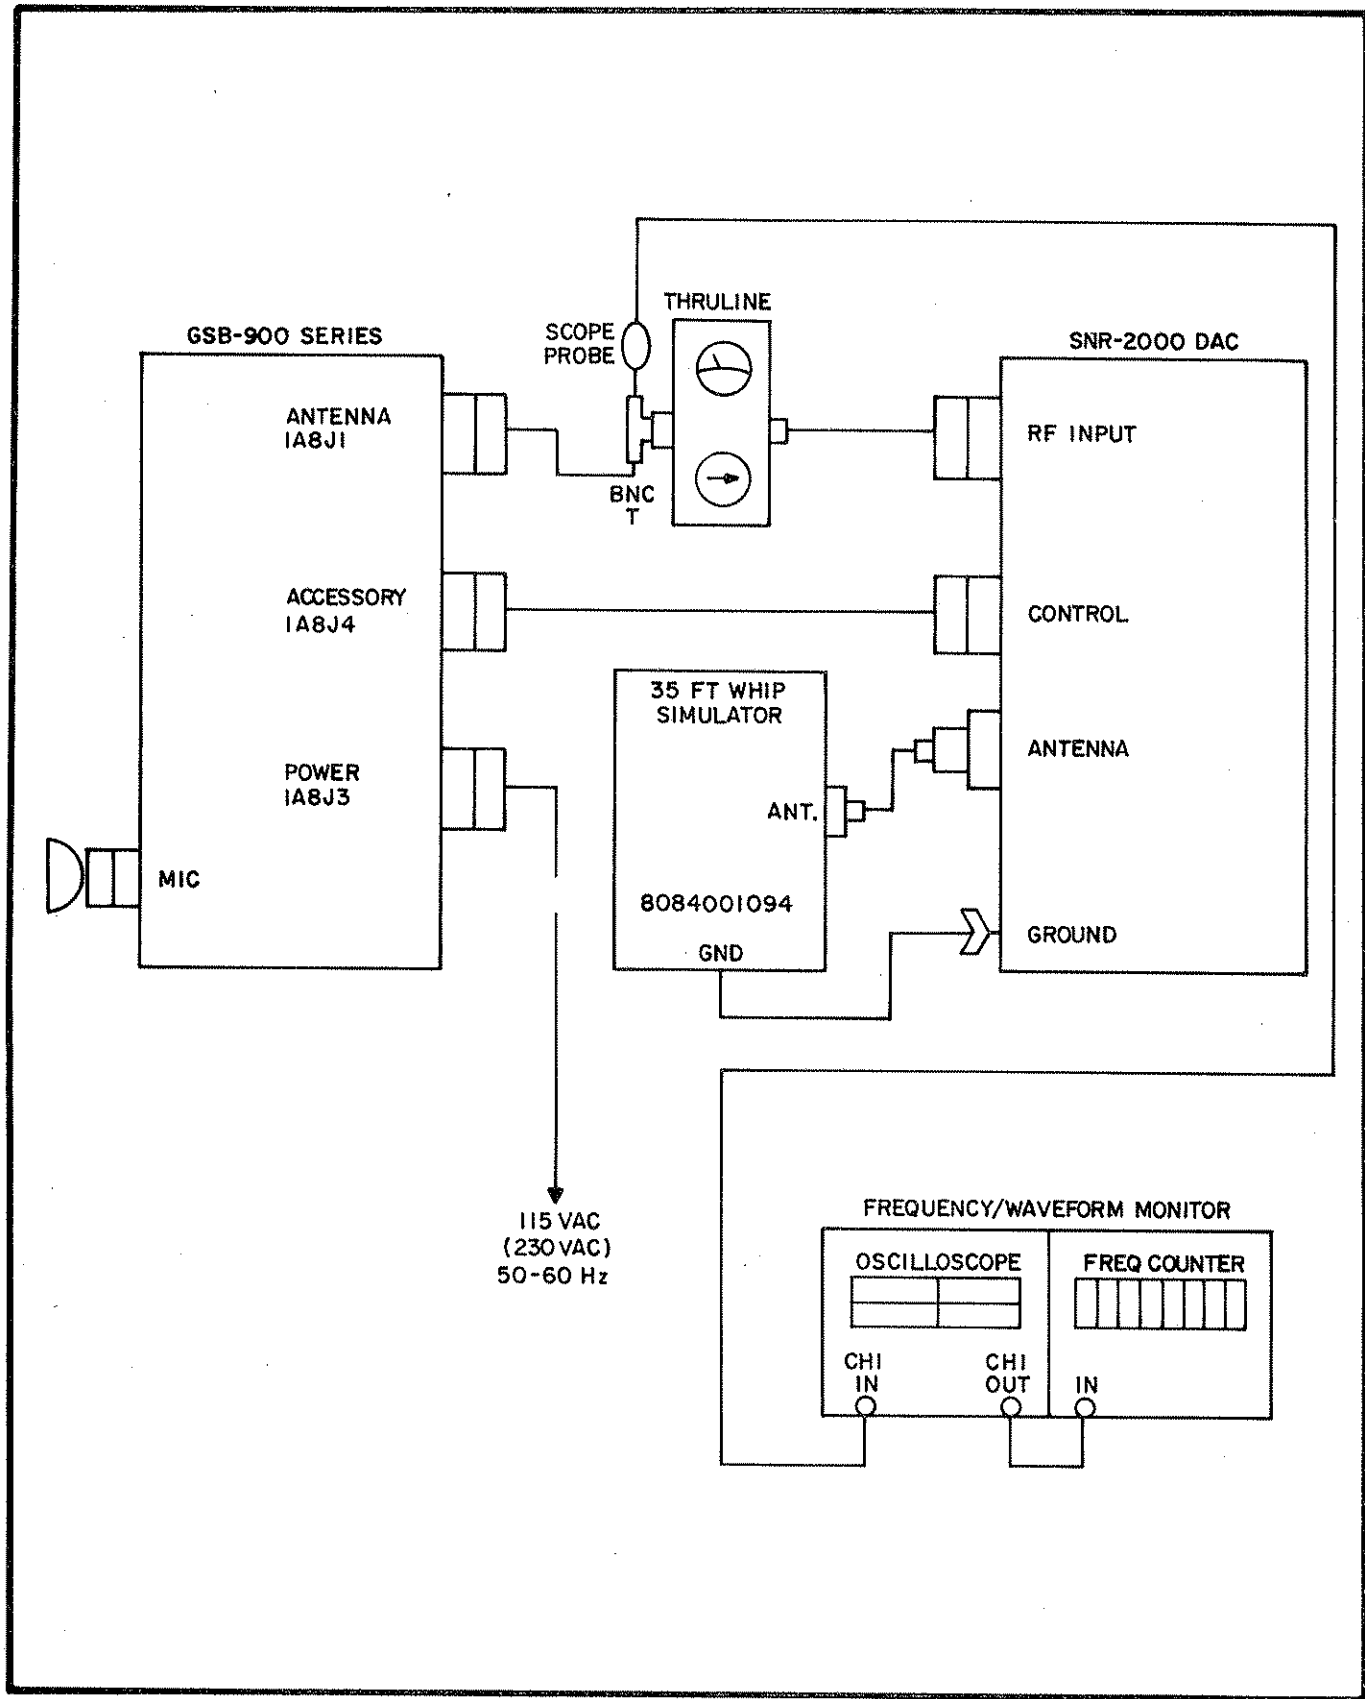

FIGURE 5-5 COUPLER TEST SETUP
Connect coupler and test equipment as shown in Figure 5-5. Perform Fault Analysis as outlined in Table 5-1.
PRELIMINARY SETUP FIGURE 5-5
F. REFLECTED RF POWER DETECTOR (HI)
4. Unkey radio and turn MODE switch to OFF. Disconnect meter leads and disconnect 50 ohm dummy load. Remove A3 from extender and remove extender board. Reinstall A3 board in coupler and reconnect RF coax cables, fan plug, and ground straps for normal operation of coupler. Connect test equipment as in Figure 5-5.
Preliminary Setup	<p>a. Test equipment: Freq/wave-form monitor, Figure 5-5 and a digital voltmeter (DVM).</p> <p>b. Exciter/Transceiver: AM Mode of operation.</p> <p>c. Connect 35 ft. whip antenna simulator to couplers antenna terminal.</p> <p>d. Place Computer Board A2 on extender board p/n 8092039097.</p>